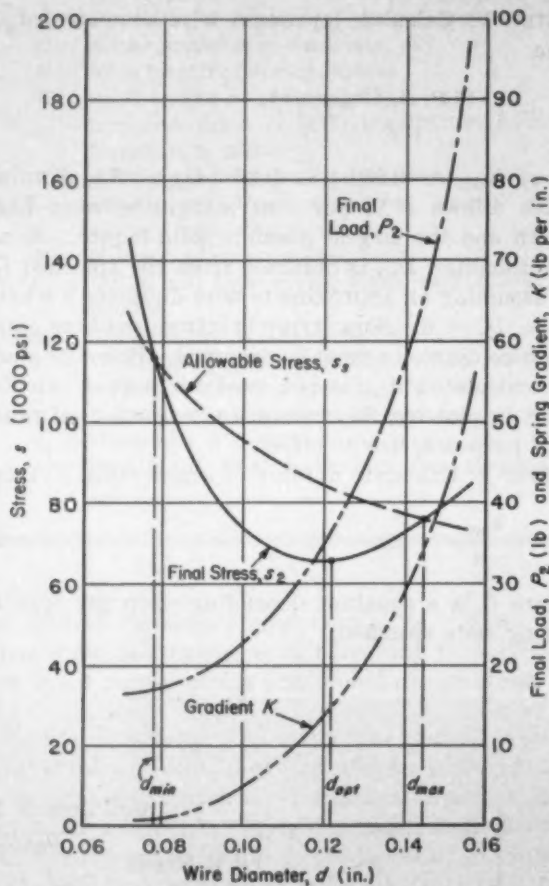

Fig. 5—Graphical interpretation of design data in Table 1 showing interrelationships of critical variables
Formal grouping of calculated data, TABLE 1, is generally helpful. It simply condenses all the calculations of Steps 1 to 6 and groups the data required in Step 8. Values of  $s_2$ ,  $s_s$ ,  $P_2$ ,  $K$  and perhaps free length,  $H$ , are plotted as shown in Fig. 5. Free length is plotted when problems in assembly, buckling or tangling may indicate preferable values. It is possible that the designer may wish to plot  $s_2$  for a number of springs with various values of  $D_o$ , as in Fig. 3, to appraise better the choices at different outside diameters.
STEP 8: The tabular data in TABLE 1 for  $s_2$ ,  $s_2$ ,  $P_2$  and  $K$  are plotted in Fig. 5.
STEP 9: In this step, there are three basic objectives with which the designer reviews the graph in Fig. 5: (1) Minimum or low gradient, (2) minimum or low stress, and (3) values of gradient  $K$  or final load  $P$  which most nearly satisfy application requirements. Minimum gradient is evidently obtained at  $d_{min}$  which is equal to 0.080-inch in the example. On the other hand, any gradient below a certain magnitude may be satisfactory; below 5 pounds per inch, for example, in this problem. In such a case the designer would select a wire diameter in the acceptable gradient range which offers the most appropriate final load,  $P_2$ .
The flexibility afforded by the analytical method is illustrated in Fig. 6 by the great difference in size of two compression springs, drawn to scale, which both fulfill the given initial physical and operating specifications. These designs employ  $d_{min}$  and  $d_{max}$  from Fig. 5.
It is evident in Fig. 5 that the designer can see at once all possible values of  $P_2$  and  $K$  and can select the wire diameter corresponding to the final load or gradient closest to application requirements. Thus, although the magnitude of  $P_2$  and  $K$  may not be critical enough to specify initially, there frequently is a maximum or minimum value, or range, which would result in most satisfactory performance. Another consideration in choosing wire diameter is the possibility of manufacturing difficulties, which would increase spring cost, or tangling problems with springs having indexes which are comparatively low or high. It is recommended that the wire diameter selected provide a spring index between 6 and 10. In this example, all wire diameters below 0.114-inch would result in springs with indexes greater than 10.